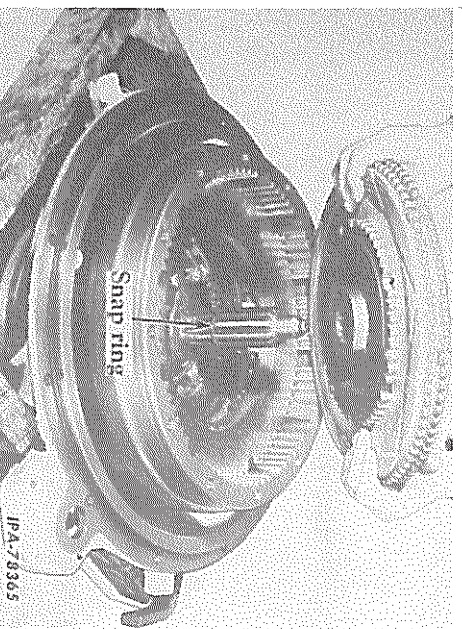

FIG. 6 — Removing the Splined Center and Disc Assembly
3. Lift the splined center and disc assembly from the clutch shaft. Remove the snap ring that positions the splined center and disc assembly from the shaft (Fig. 6). If a component of the splined center and disc assembly (1, Fig. 14) needs to be replaced the assembly can be separated by cutting the three rivets (34) and removing the washers (33) and rivets out of the hub cover (29).